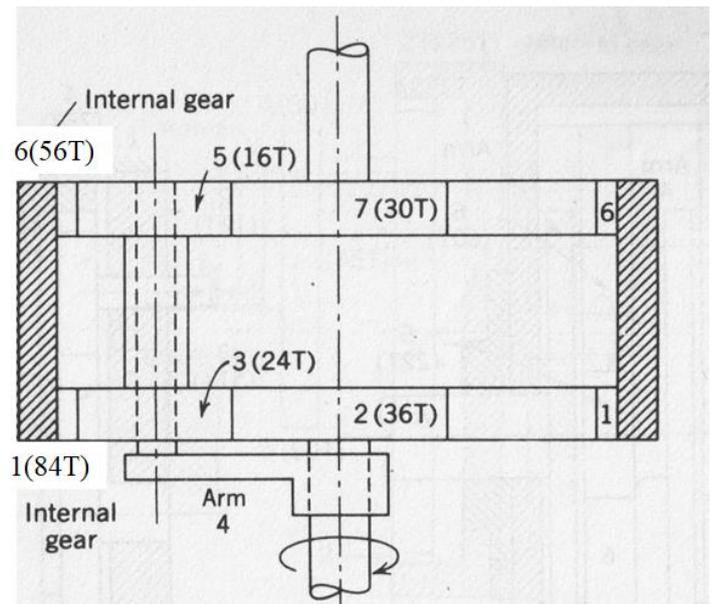

Fig. 4 A planetary gear train
5. In the planetary gear train shown in Fig. 4, gear 2 rotates at 600rpm in the direction shown and gear 1 (and gear 6) rotates at 300rpm in the opposite direction. Calculate the speed and direction of rotation of gear 7.